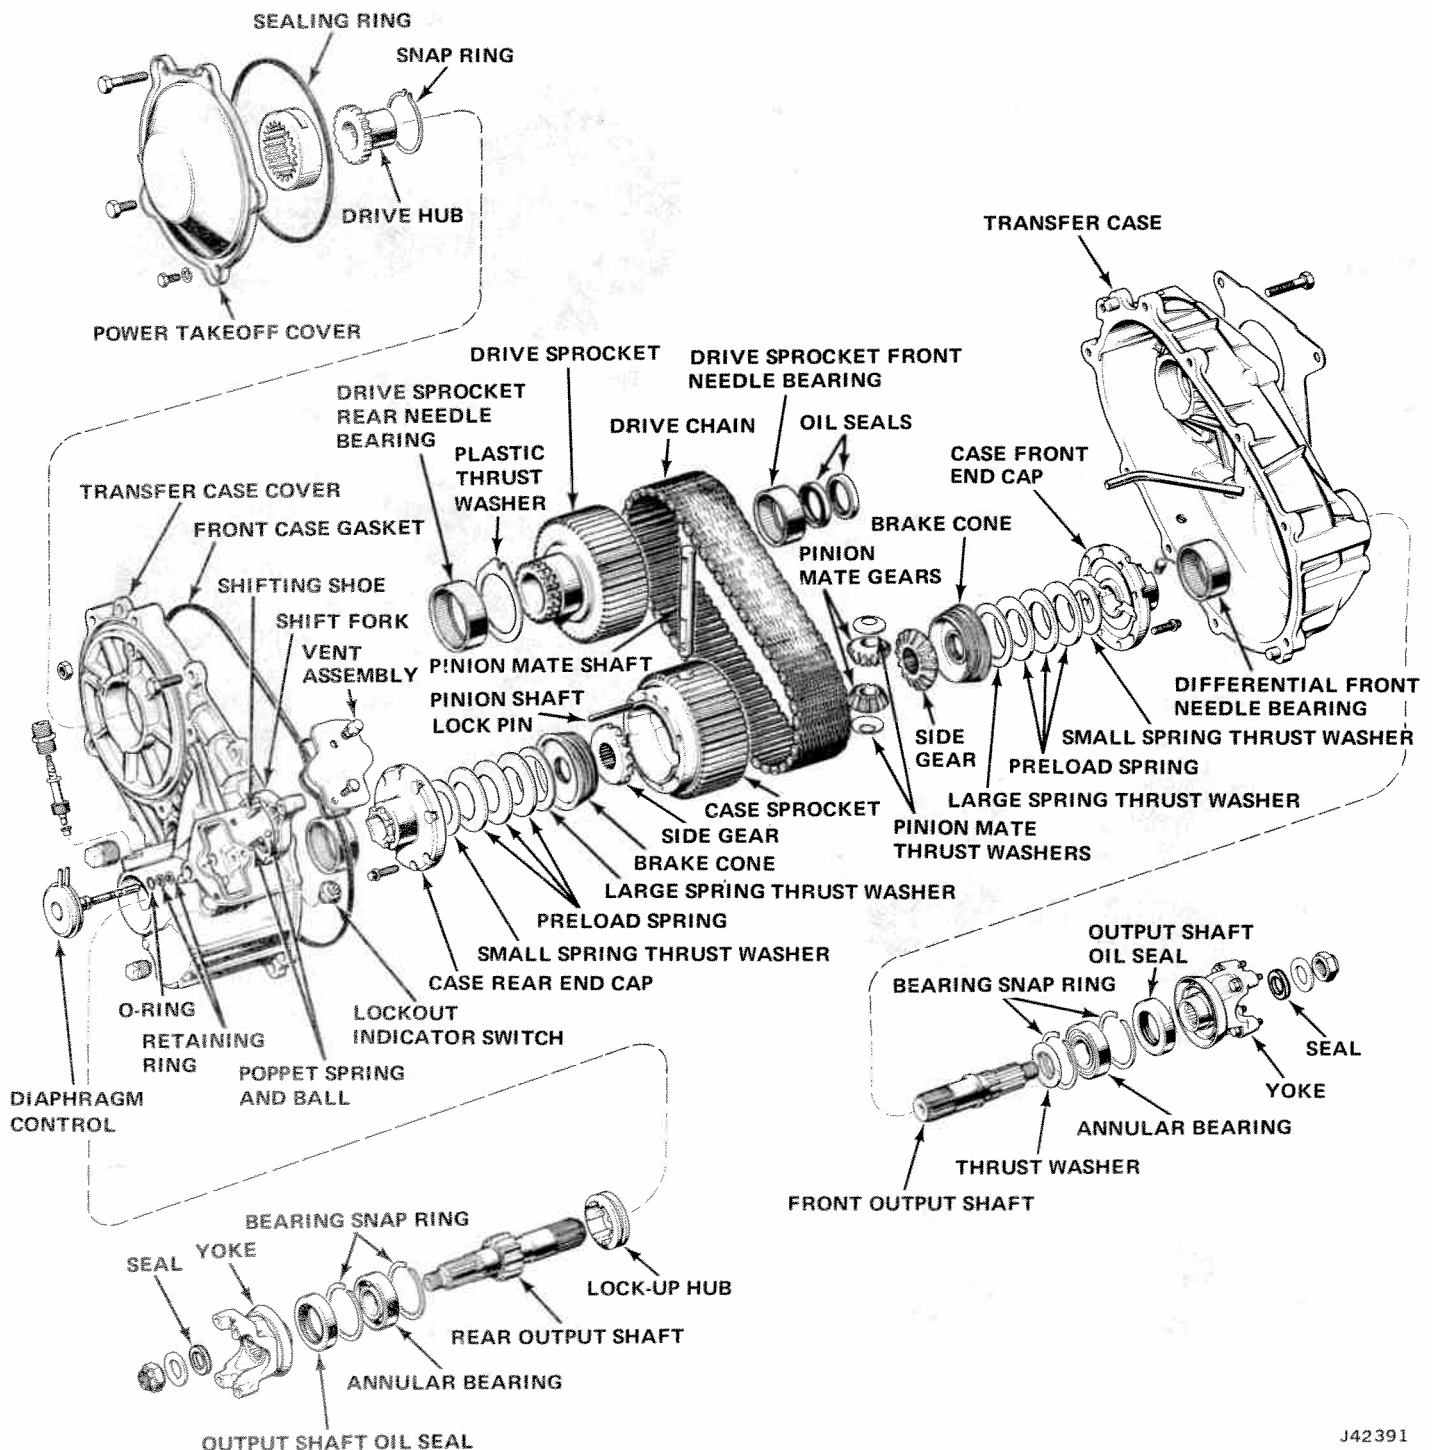

Fig. 8-40 Quadra-Trac Transfer Case Components
(1) Remove rear output shaft yoke.
(2) If not equipped with reduction, remove power takeoff cover from rear of transfer case cover. Remove sealing ring from transfer case cover (fig. 8-40).